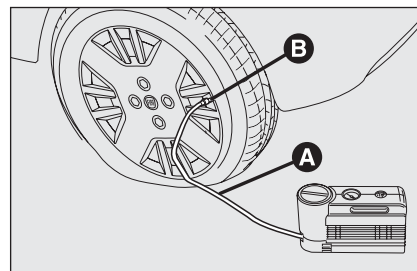

fig. 16
- ☐ **Ensure that the handbrake is up.** Remove the tyre valve cap, extract the flexible filler tube **A-fig. 16** and fasten the ring **B** onto the tyre valve;